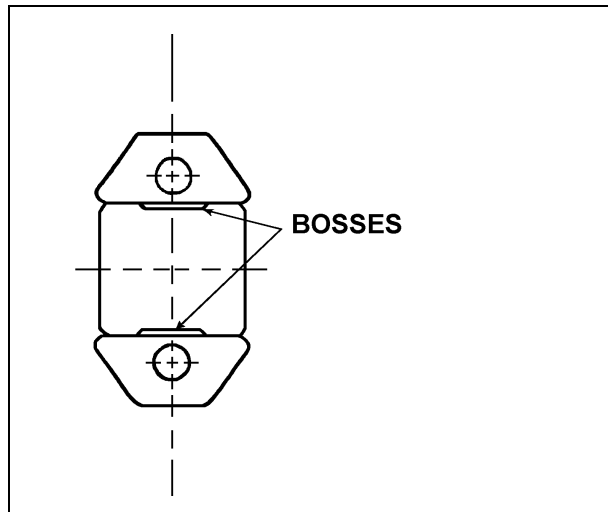

FIGURE 2: LINKS BEFORE GRINDING
5. Using a grinding wheel, grind the bosses until even with bordering surfaces (refer to fig. 2).